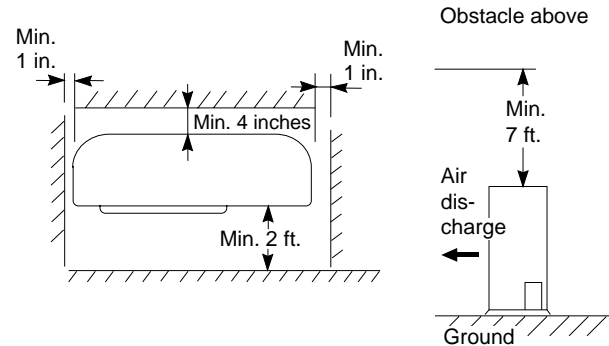

Fig. 4b
- allow enough room around the unit for air intake/exhaust and possible maintenance. (Fig. 4b)